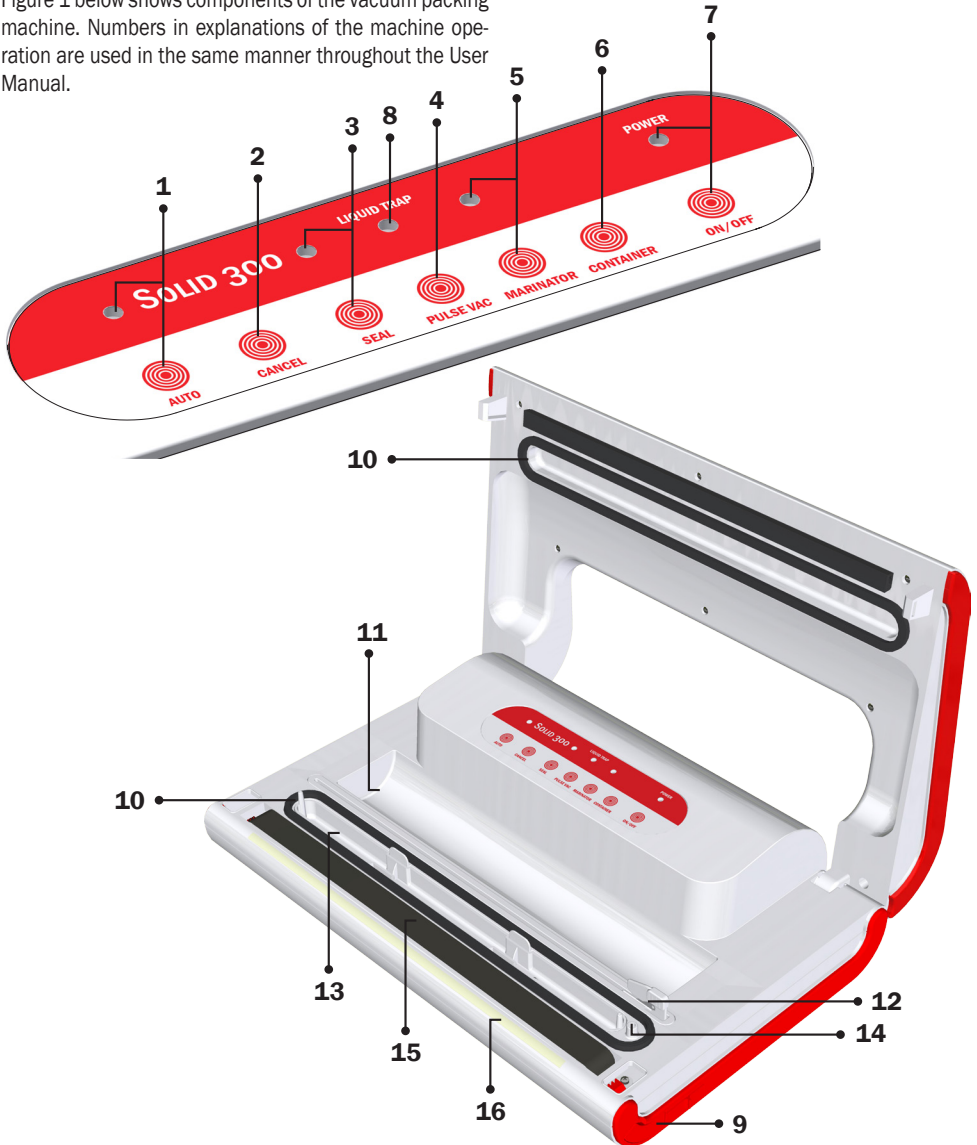

Figure 1: Status Solid 300 – components are marked with numbers.
- d.) Never touch the Sealing Strip when using the machine (Item 15 in Figure 1) – it may be hot.
Figure 1 below shows components of the vacuum packing machine. Numbers in explanations of the machine operation are used in the same manner throughout the User Manual.
9.	Latch locking system with buttons for unlocking the lid <ul style="list-style-type: none"> • Locked mode: used with sealing and manual (Pulse Vac) function. Before starting any process, the lid needs to be locked by pressing on the left and right bottom corner of the lid. At the end of the process, unlock the lid by pressing both buttons (Item 9 in Figure 1). • Lock-free mode: used with automatic vacuum packing function. After pressing the button Auto, press and hold the lid in the lower middle part until you notice change in the vacuum bag.
Turn the machine on by pressing the On/Off button (Item 7 in Figure 1). Make sure that the control light Power is on.
- Open the lid. Lift the Liquid Trap tray (Item 13 in Figure 1) from the Vacuum Channel directly upwards.
- When the light Seal turns off, the process is finished. Unlock the lid by pressing the side buttons (Item 9 in Figure 1). Remove the bag by detaching it from the Status Stiki tape.
- Connect the tube aperture to the slot on the extreme right edge of the vacuum channel (Item 14 in Figure 1).
- Connect the aperture of the tube to the attachment located on the extreme right edge of the vacuum channel (Item 14 in Figure 1).